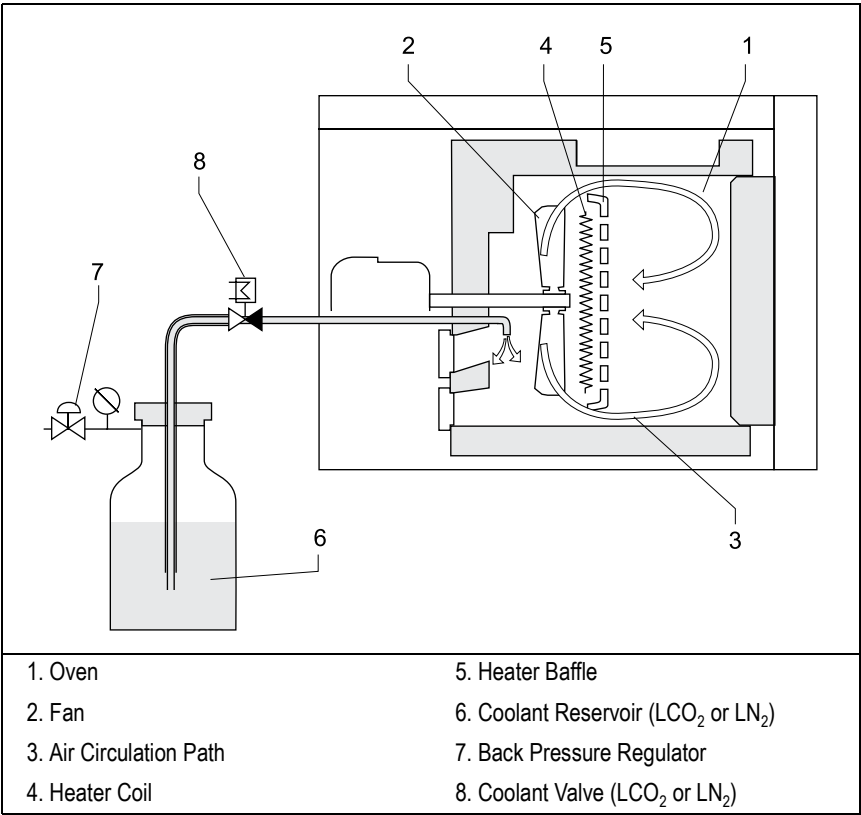

Figure 2.1-3. Cryogenic Air Circulation
- Temperature control by a combination of heater control and fine control of hot air exhaust and an ambient air intake. The system allows separation of moderately volatile components on thick film capillary columns at near ambient temperatures without the use of a cryogenic system. With a cryogenic option installed, the oven temperatures can reach –55 °C with liquid carbon dioxide or –99 °C with liquid nitrogen. Figure 2.1-3 shows the cryogenic system.